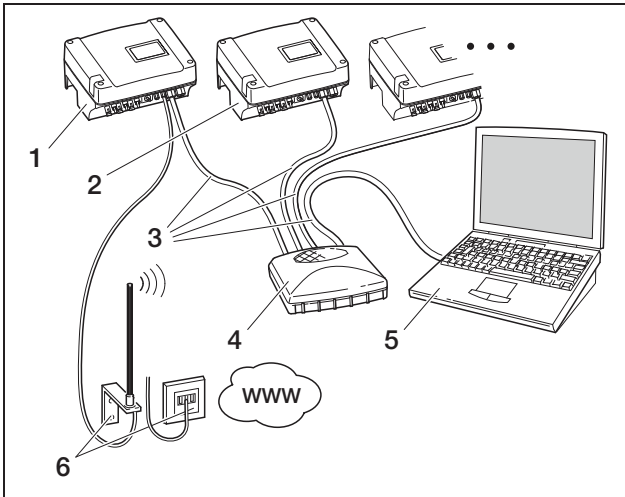

Fig. 75: Communication board I:
- You have a local network (Ethernet) with fixed IP addresses and wish to integrate the inverter into the network (figure 75 or 76).